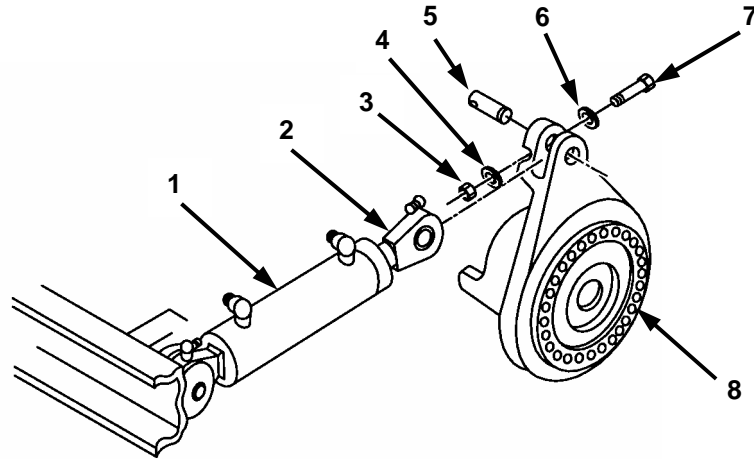

Figure 2-28. Hydraulic Track Adjusting Cylinder (3 of 4).
- f. Connect rod end (Figure 2-28, 2) of hydraulic track adjusting cylinder (1) to final drive adjusting flange (8) with pin (5), washer (6), screw (7), washer (4), and locknut (3), retained from Section III, step 4 or Section IV, step 6e.